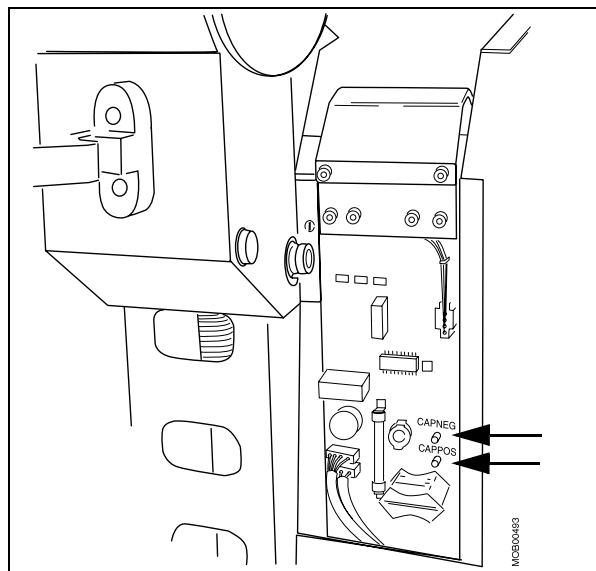

Fig. 3:
- Measure the residual voltage at test points CAPPOS and CAPNEG on board D7 (Fig. 3 / p. 14) . The voltage measured must be less than 2 VDC